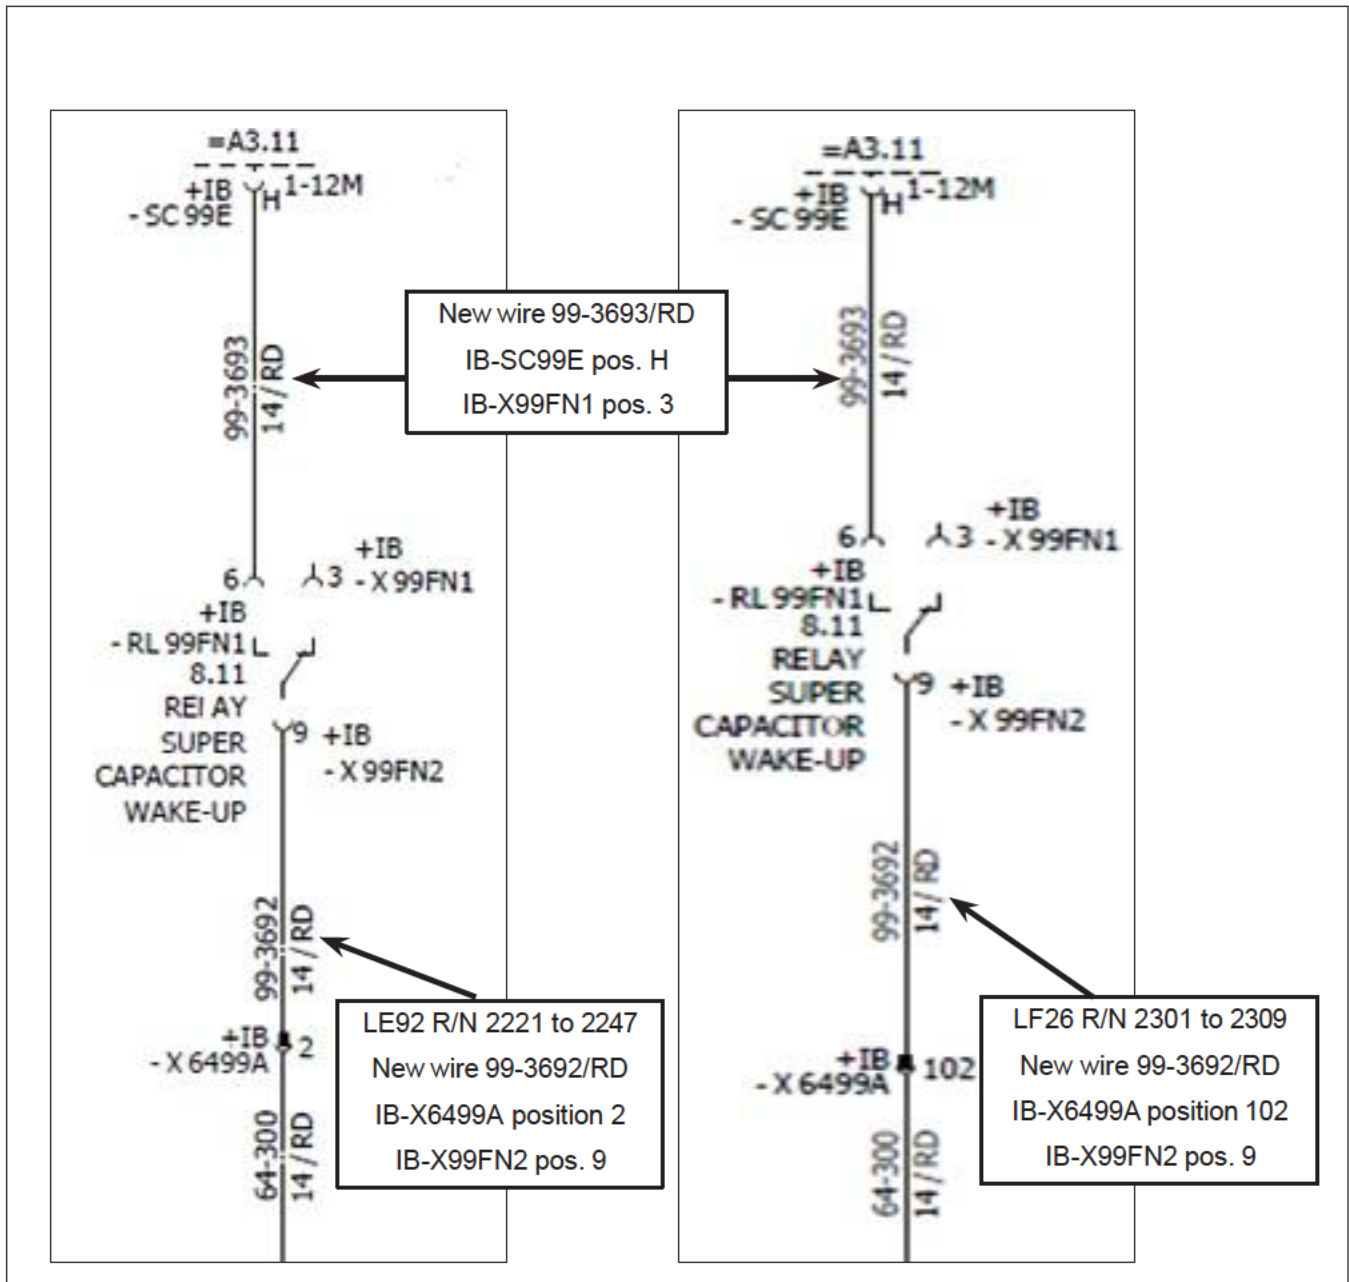

Figure 8 - New Wires 99-3692 and 99-3693 Installation
- 1.21. Connect wire 99-3692/RD (available in wire kit N632001301) in connector IB-X6499A and new relay base IB-X99FN2 (N49576175 circuit breaker ass). See Figure 8.
- 1.22. Connect wire 99-3693/RD (available in wire kit N632001301) in connector IB-SC99E and new relay base IB-X99FN2 (N49576175 circuit breaker ass). See Figure 8.